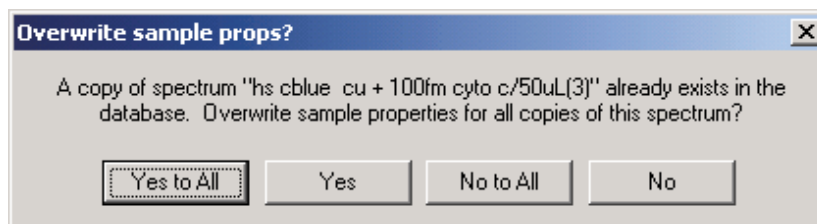

Figure 5-8: The *Overwrite sample props?* alert.
6. When saving an experiment that contains copies of spectra that already exist in the project you are saving to, the **Overwrite sample props?** alert will appear (Figure 5-8). The alert allows you to choose which sample properties to keep. To keep the sample properties already in the database, select **No** or **No to All**. If you wish to overwrite the sample properties in the database with the sample properties in the spectra you are saving to the database, select **Yes** or **Yes to All**. Selecting **No to All** or **Yes to All** will answer **No** or **Yes** for all the spectra that have this conflict.